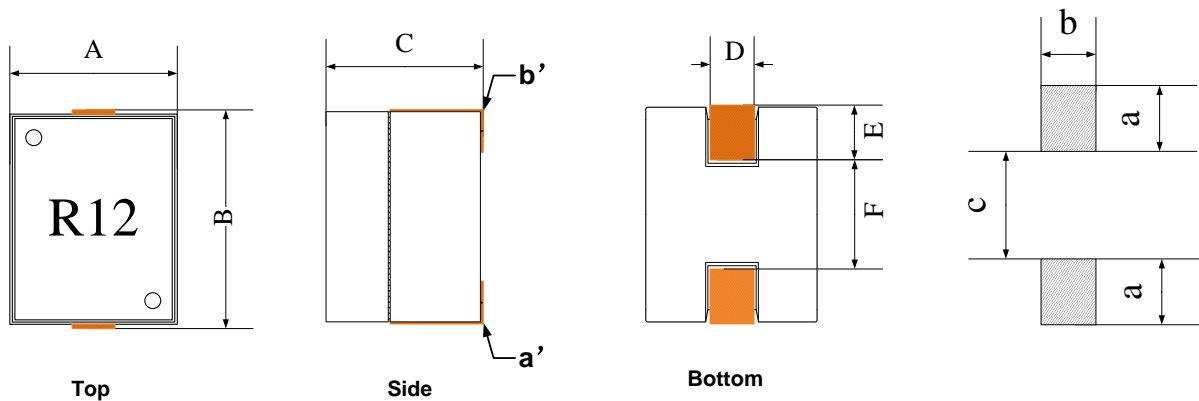

Fig.3-1
Dimensions and recommended PCB pattern for reflow soldering, refer to Fig.3-1 and Table 3-1.
- ※ Nominal DCR is measured from point a' to point b'. (refer to Fig. 3-1)